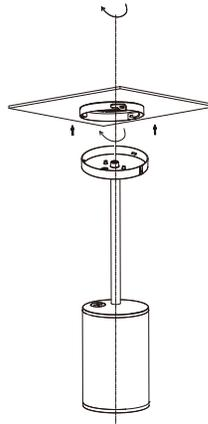

Fig 10
5. Rotate the lamp and attach it to the ceiling plate. (Fig 10)